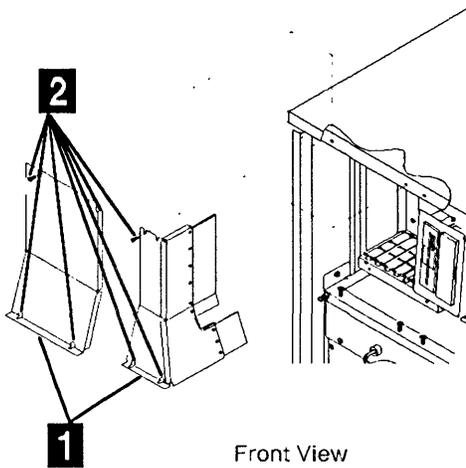

Figure 4-72. MOSS Covers
10. Refer to Figure 4-72 then take away the MOSS board covers **1** (7 screws must be removed **2**).
4. Re-install the covers of the MOSS board **1** with the 7 screws **2**. Refer to Figure 4-72 on page 4-52.